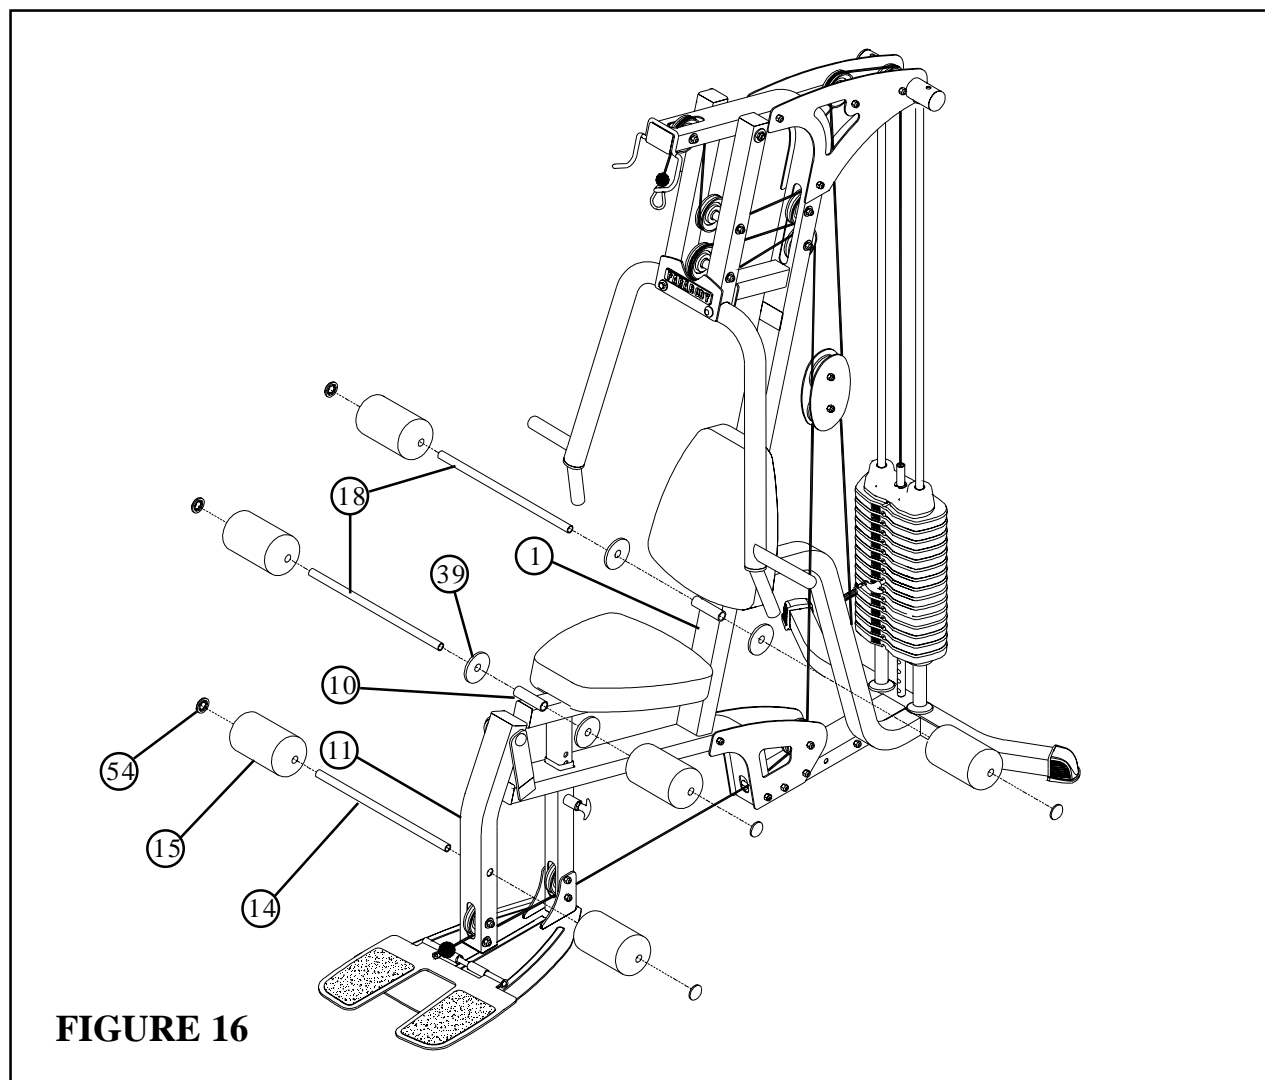

FIGURE 16
- Attach two 4 X 7" ROLLER PADS (15) to the LEG PEDESTAL (11) using one 3/4 X 17" TUBE (14) and two 3/4" STARLOCK COLLARS (54) as shown in FIGURE 16.
- Attach two 4 X 7" ROLLER PADS (15) to the SEAT ADJUST (10) using one 3/4 X 17-1/2" TUBE (18), two PLASTIC WASHERS (39) and two 3/4" STARLOCK COLLARS (54) as shown in FIGURE 16.
- Attach two 4 X 7" ROLLER PADS (15) to the FRAME (1) using one 3/4 X 17-1/2" TUBE (18), two PLASTIC WASHERS (39) and two 3/4" STARLOCK COLLARS (54) as shown in FIGURE 16.